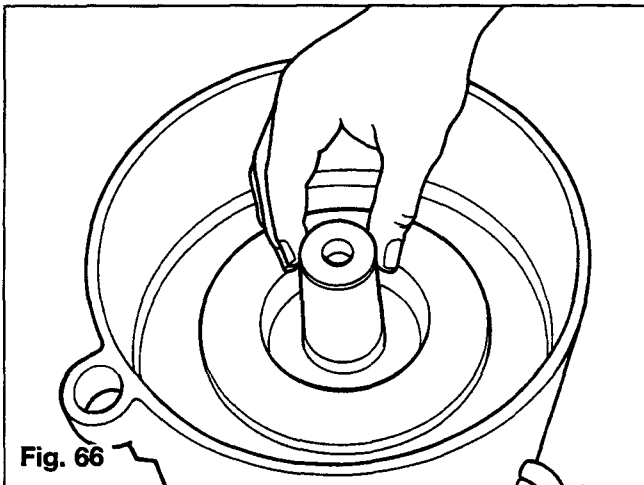

Fig. 66
9. Apply a coat of lubricant (10885) to one side of seal (10061). Press lubricated side onto end of the ball screw cap (Figure 66). The lubrication helps hold the seal in place while the end cap is positioned.